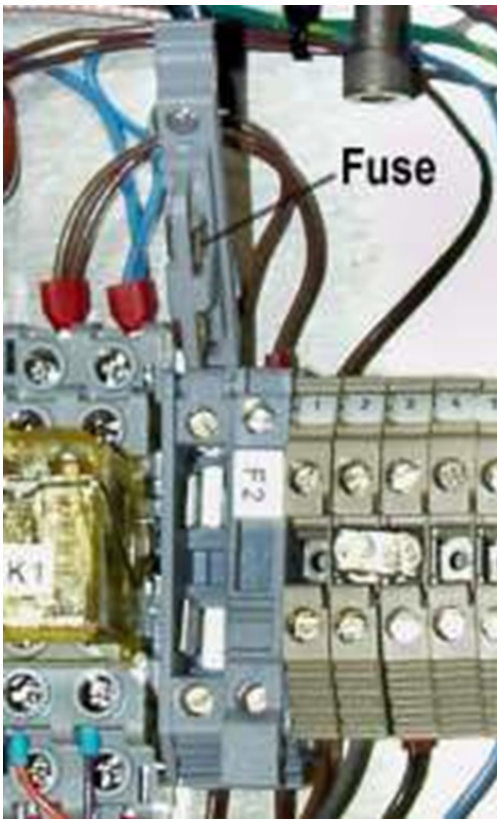

Figure 14. Fuse Replacement
1. Open the fuse housing by lifting up on the tab at the bottom of the housing. The fuse is located inside the housing cover (see Figure 14).